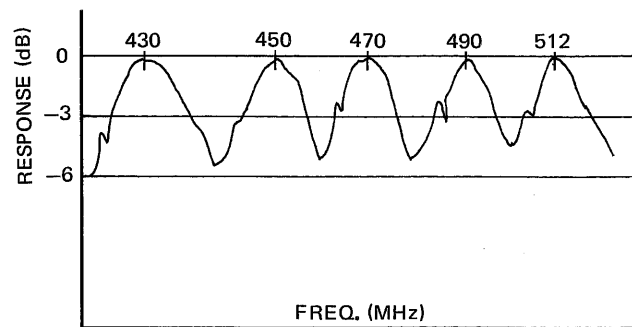

FIGURE 10
Step 4: Make sure that the output curves are similar to Figure 10 (for channels 7 thru 11).